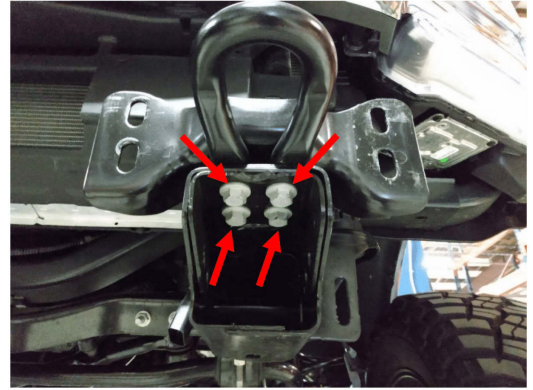

Figure 9.
9. Using an 18mm socket wrench, remove the eight (8) bolts attaching the tow hooks to the frame and remove the tow hooks. Figure 9.